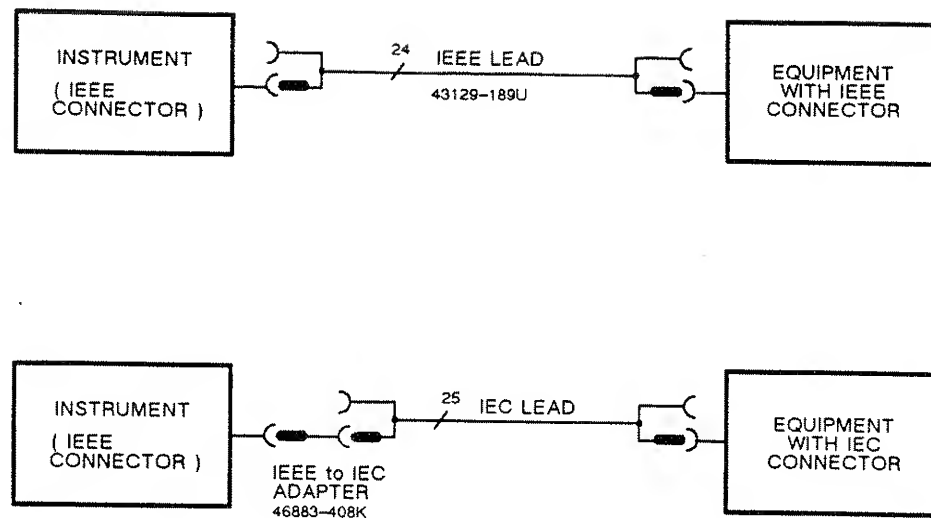

Fig. 2-2 GPIB interconnections
- (1) Remove the rectangular cover plate from the right-hand side of the rear panel, withdraw the interconnecting lead and discard the cover plate but retain the fixing screws.
- (2) Connect the GPIB interface assembly AD0 taking care that the ribbon cable connector SKP is correctly aligned with the connector PLP.
- (3) Slide the GPIB assembly into the instrument, engaging top and bottom card guides, and switch the instrument on temporarily. Check that the front panel displays data correctly. If this is satisfactory switch off and continue with step (4); if, however, display data is corrupted, switch off and re-check the alignment of SKP and PLP.
- (4) Secure the GPIB assembly into the instrument, engaging the top and bottom card guides, and fasten the assembly to the rear panel using the two screws removed in step (1).
- (5) The interface is ready for GPIB operation after setting the appropriate talker/listener address - see Chap. 3 : Second function 2.
- (6) Connection to other equipment which has a 24-way bus connector to IEEE Standard 488 can be made with the GPIB lead assembly 43129-189U, available as an optional accessory. Where conformity with the radio frequency interference limits specified by VDE (Verband Deutscher Electrotechniker) is required, an alternative double screened GPIB lead assembly 46883-962H is available. An IEEE-to-IEC adapter 46883-408K is also available for interfacing with systems using a 25-way bus connector to IEC Recommendation 625 - see Fig. 2-2.